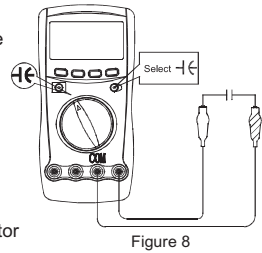

Figure 8
- Connect the test leads to the proper terminals as said above to avoid error display. The LCD will display **DL** indicating diode being tested is open or polarity is reversed. The unit of diode is Volt (V), displaying the forward voltage drop readings.
F. Measuring Capacitance (See Figure 8)